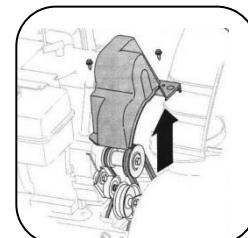

Figure 20
- Remove the belt cover in the front of the engine by removing the two self-tapping screws. See Figure 20.